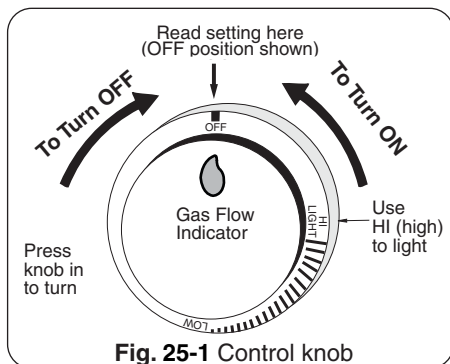

Fig. 25-1 Control knob
**For your convenience and safety; when the control knob is turned to the on position, the gas flow indicator will change from blue to red. (Red indicates gas flow.) See Fig. 25-1.**